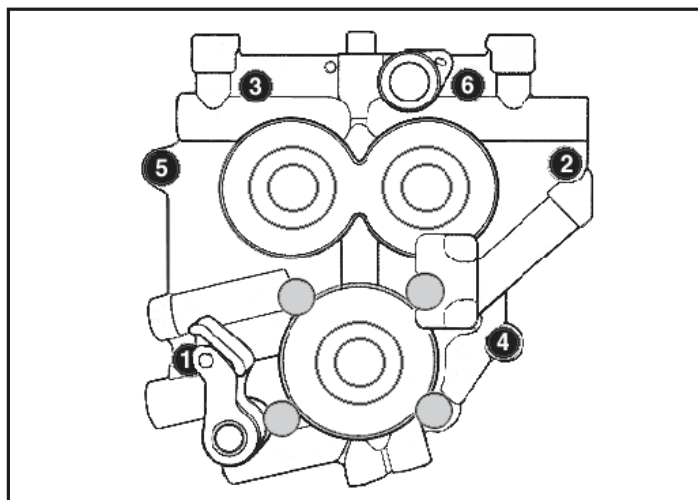

Figure 2
6. Following sequence shown in **Figure 2**, alternately loosen and remove cam support plate bolts.
9. Loosely install support plate screws with a drop of blue thread locker Alternately tighten screws to 95 in-lbs. torque following sequence shown. See Figure 2 on Page 4.
positions 1 & 2 in Figure 2) can be easily stripped when applying maximum 120 in-lbs. torque as recommended in factory service manual.